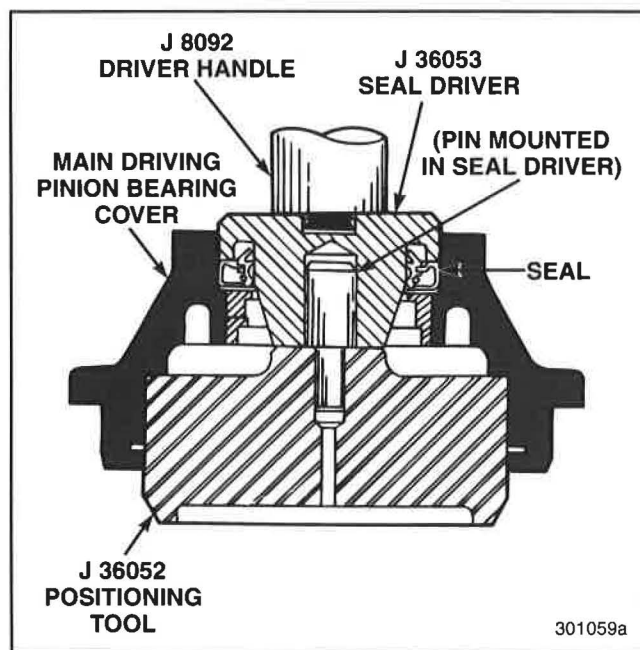

Figure 202 — Installing Bearing Cover Oil Seal
- Install the main drive pinion bearing cover oil seal, using the tool arrangement depicted in Figure 202. Correct seal installation depth is achieved as the driver tool bottoms against the positioning tool.